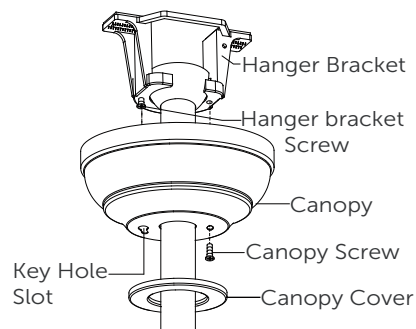

Fig. 9
9. Half-tighten two hanger bracket screws, then push the canopy upwards and let the hanger bracket screw heads come through the key hole slot, then rotate the canopy counter-clockwise until canopy is secured. Now, tighten hanger bracket screws. Finally, push the canopy cover upward, then turn it counter-clockwise until it is secure (Fig. 9).